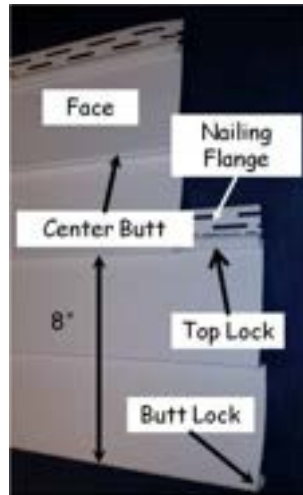

Figure 11-21. Siding Nomenclature.
3. As shown in Figure 11-21, the butt lock of each course locks into the top lock of the course below.
4. On the 8s: The visible portion of each siding course is 8" high (see Figure 11-21). For each new course, snap the butt lock onto the top lock of the previous course along the entire piece. Nail the ends and middle, then measure up from the **BOTTOM** of the first course to the **BOTTOM** of the course being installed. Each measurement should be a multiple of 8 (e.g. 8", 16", 24", 32"). At each nail position, before nailing, check the measurement and adjust up or down to an even multiple of 8, and finish nailing the entire piece. Recheck as necessary and adjust the position of the nailing flange and re-nail, if required. Small adjustments can be made by tapping the nail head up or down as required. When installing the first and fifth courses, be sure the top of the siding (the nail flange) just touches the quality line previously snapped (see Section 11.1.6.4) on the wall.